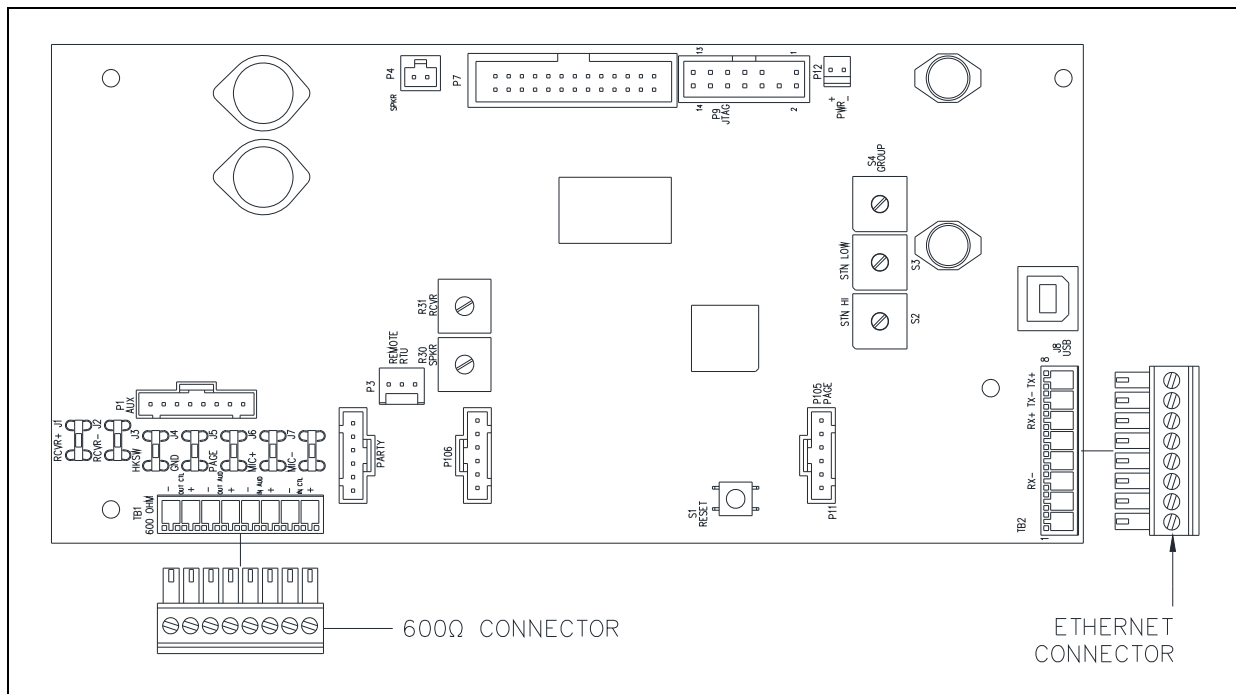

Figure 8. SP2 Main PCBA (Ethernet)
3. Connect the 600-ohm audio wires to the pluggable terminal block for the 600-ohm audio I/O connection (see Table 6 and Figure 8).
3. Connect the Ethernet cable to the 8-position pluggable terminal block (see Figure 8)
4. Connect the pluggable terminal block to the Main PCBA terminal block TB2 (see Figure 8).